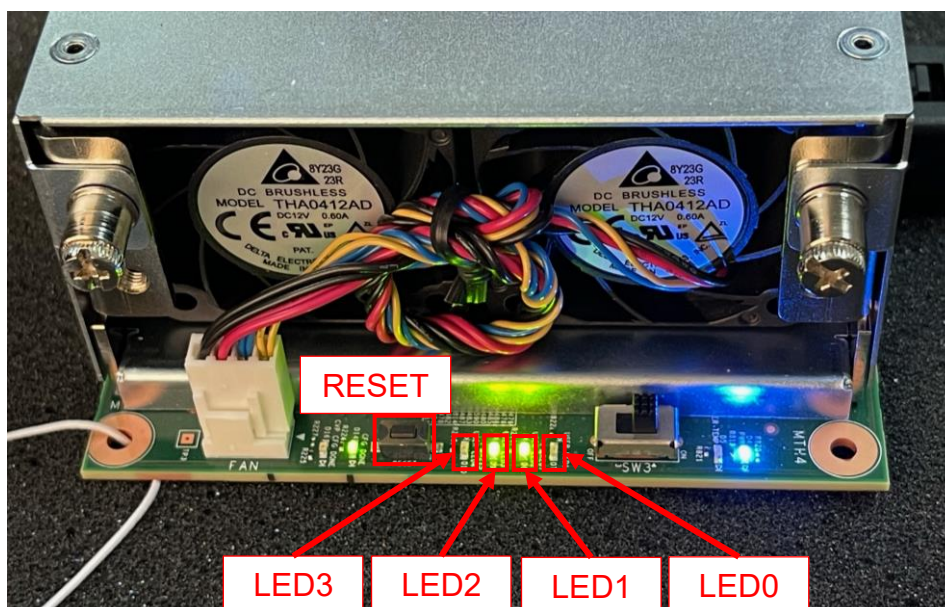

Figure 3-4 LED[3:0] status on board
- 8) When configuration is completed, user can check status LEDs on board as Figure 3-4